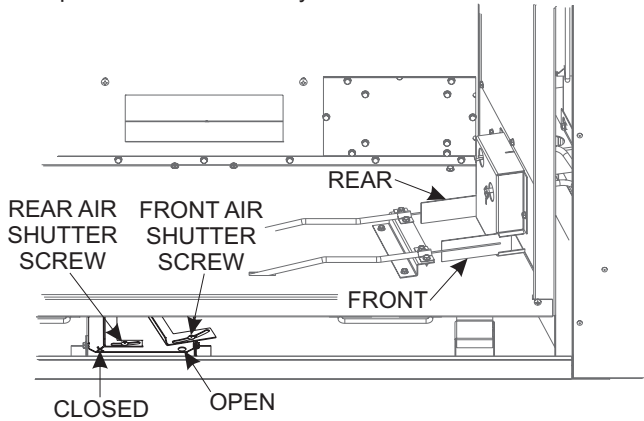

Figure 7
9. Loosen rear air shutter screw and rotate handle to the left until 1/8 inch opening is achieved and tighten down screw. **See Figure 7.**